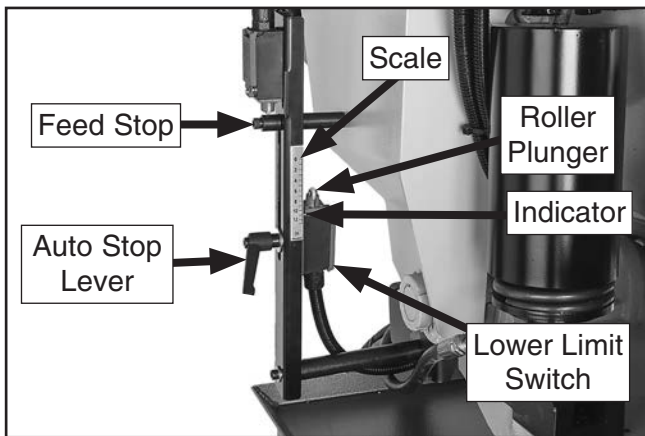

Figure 89. Lower limit switch controls.
- Loosen auto stop lever (see **Figure 89**), adjust lower limit switch until white indicator aligns with approximate cutting height marked in inches on scale.